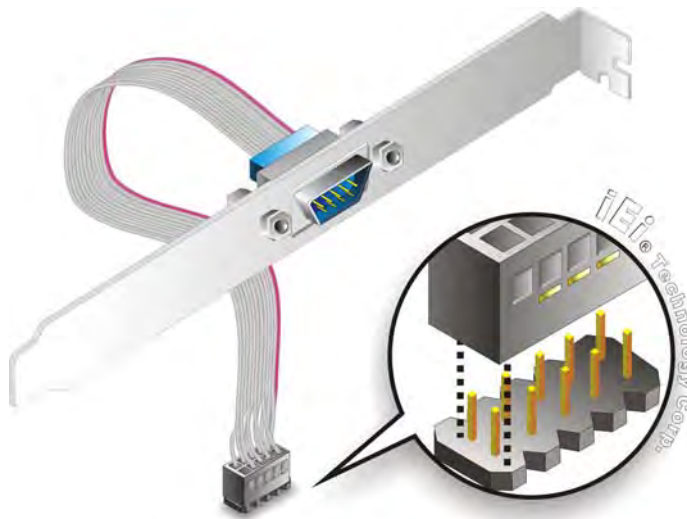

Figure 4-3: Single RS-232 Cable Installation
Step 2: Insert the cable connector. Insert the connector into the serial port box header. See **Figure 4-3**. A key on the front of the cable connectors ensures the connector can only be installed in one direction.